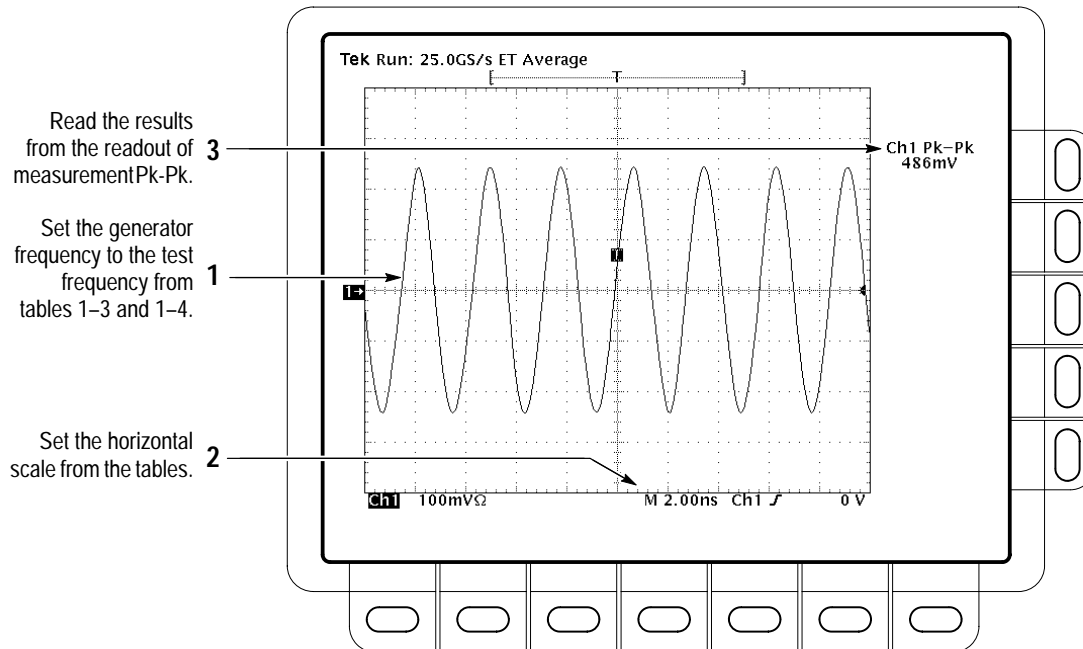

Figure 1–7: Measurement of Analog Bandwidth
- Read the results at the CHx Pk-Pk readout, which automatically measures the amplitude of the test signal. (See Figure 1–7.)